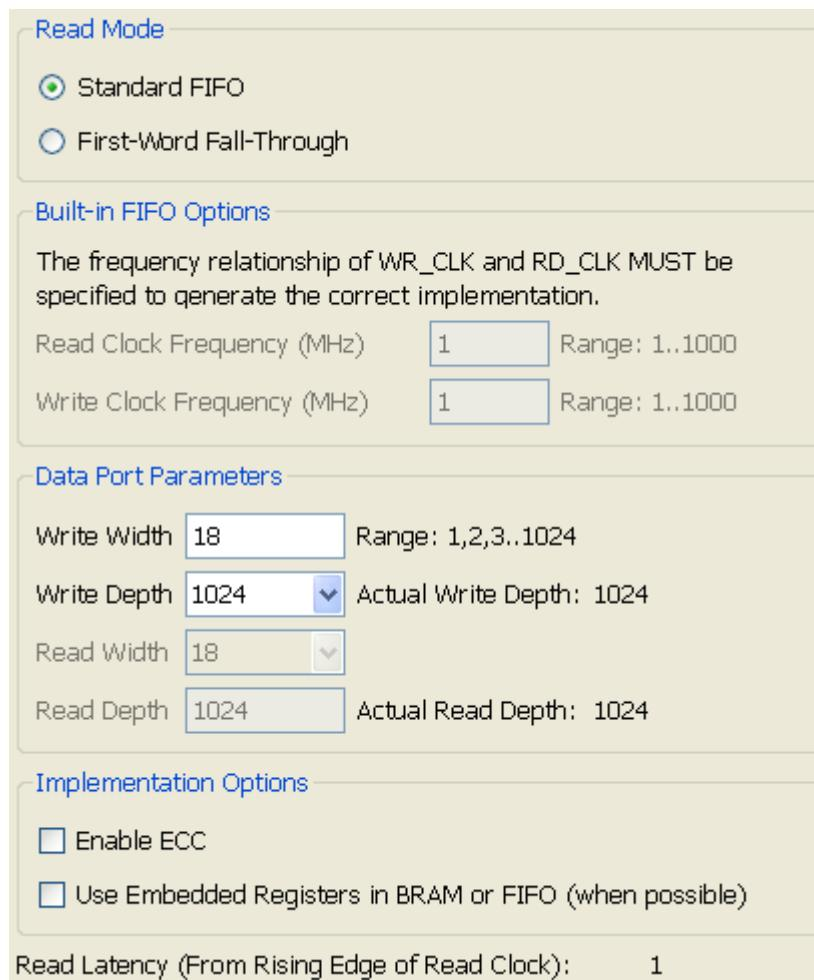
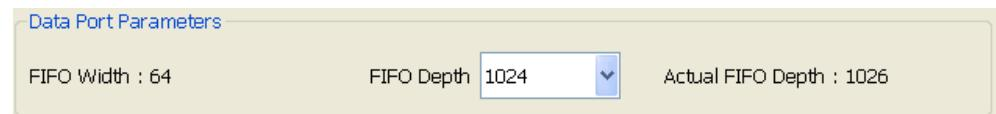

Figure 8-5: Native Interface FIFO: Page 2 - Read Mode, Built-In FIFO, Data Port Parameters and Implementation Options
Figure 8-7: AXI4 Interface FIFO: Page 4 - FIFO Depth Selection
Figure 8-5 shows the Native Interface FIFO Page 2 screen to set the read mode, built-in FIFO options, data port parameters, and implementation options.
Figure 8-6, Figure 8-7 and Figure 8-8 show the equivalent settings of Figure 8-5 in the AXI4-Stream GUI.
- Write Depth of Native FIFO can be set through FIFO Depth on Page 4 of the AXI4-Stream FIFO GUI, as shown in Figure 8-7.